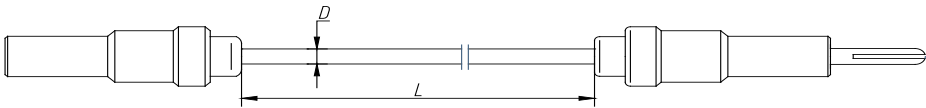

Fig.8 Diagram of Cordfor Monopolar
G. The outline structure of Cordfor Monopolar are shown in Fig.8 and Table 8.